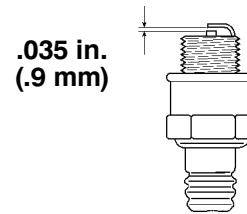

Figure 28
4. Set the spark plug gap at .035 inch (.9 mm) (Fig. 28).